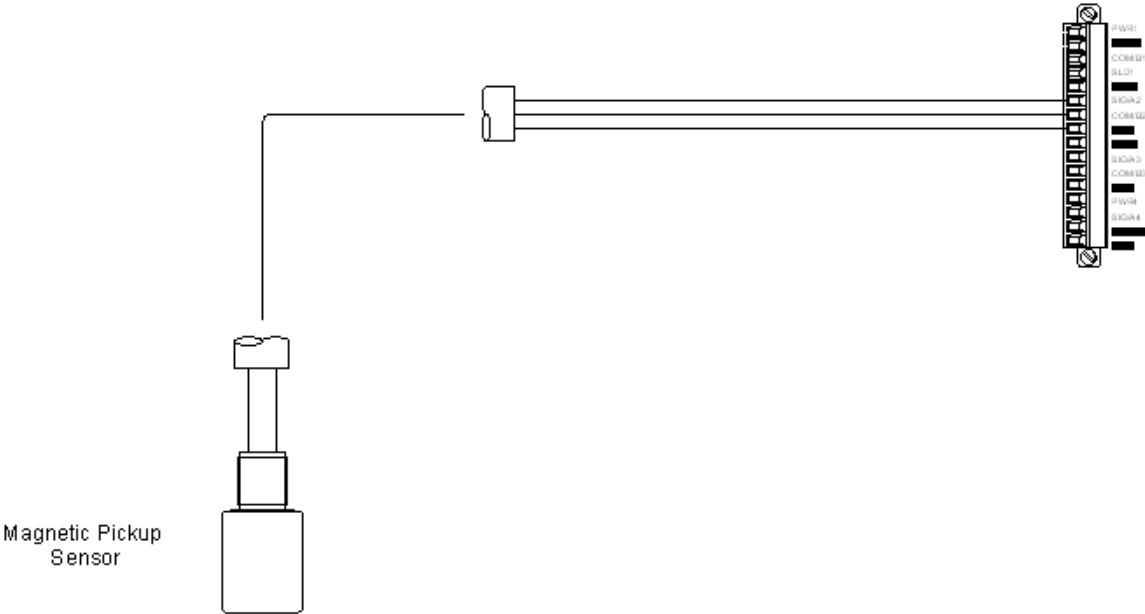

Figure 23: Magnetic Pickup Wiring
1. Figure 23: UMM two wire Transmitter Wiring